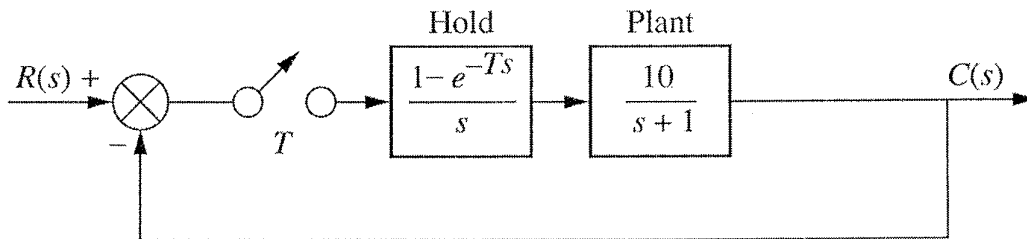

Figure Q5
- c) Consider the cascade sample data system shown in figure Q5.